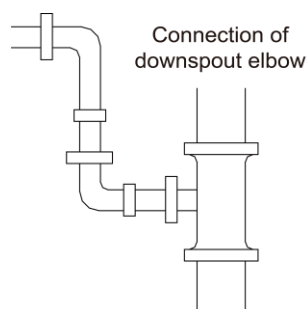

Fig 4.3.7
- NO.2: Connection of downspout elbow (Fig 4.3.7).